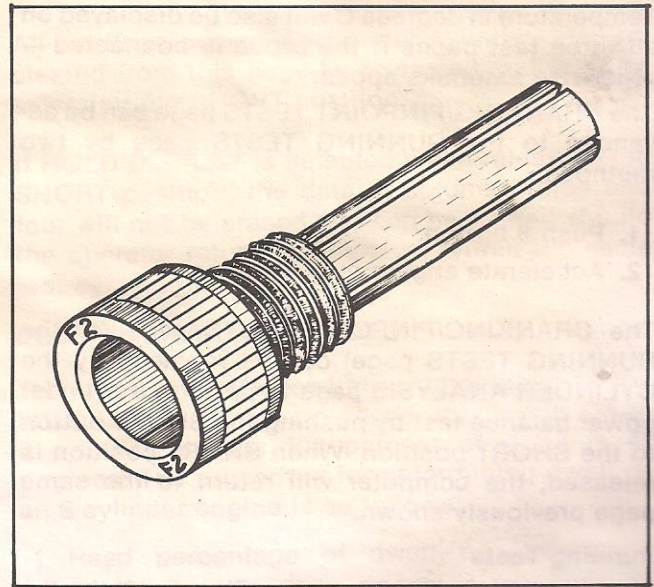

FIGURE 14—Adapter for Ford cars with 2300 cc engine.
- d. Ford 2300 cc engine—remove the threaded 13 mm hex plug from the left rear of the engine and screw the special Ford Probe Mounting Adapter F-2 in the opening (finger tight). See Figure 14.